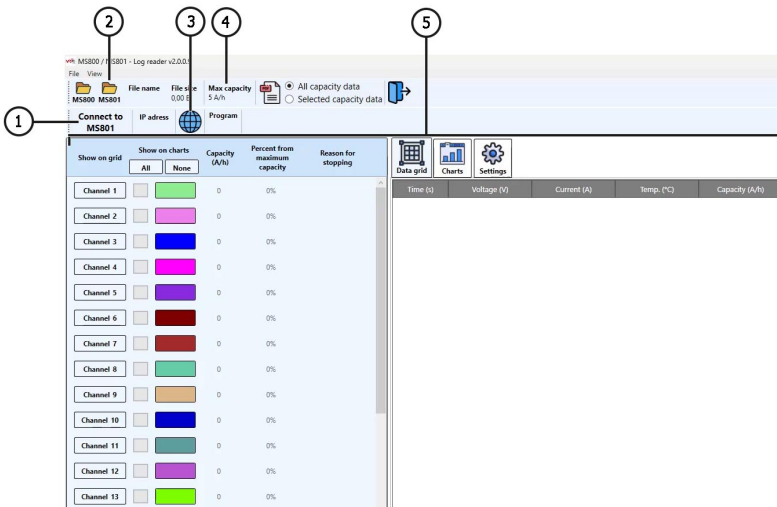
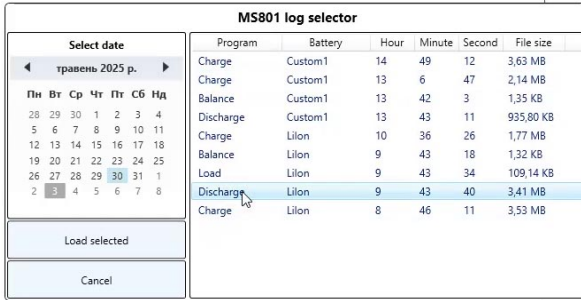

Figure 24
Figure 27
1. Launch the TesterLogReader software. The program window includes the following elements (see Figure 24):
4. Open the **log of saved reports** (see item 3 in Figure 24). In the opened window, select a date — all reports saved on that day will be shown in the left panel (see Figure 27).